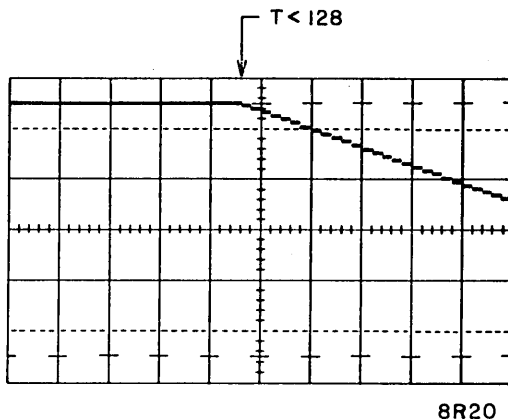

Figure 3-13. Position Converter Output Waveform
- Observe waveforms similar to Figure 3-13.